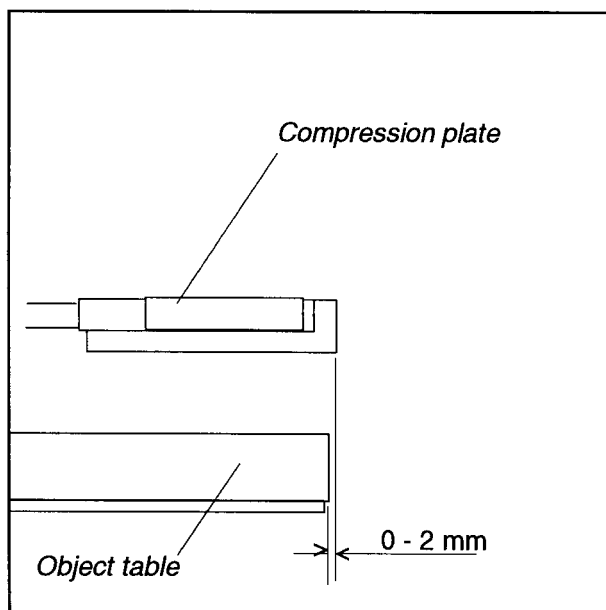

Fig. 3
2. Make sure that the compression plate aligns with the object table and that it protrudes 0 - 2 mm over the front edge of the object table, see Fig. 3 (ensure that the compression plate is fully pushed in to bottom position).